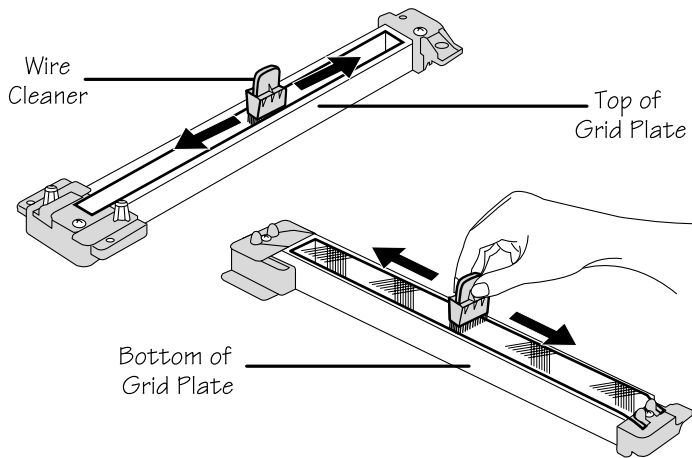

Fig. 6.13 Clean the Charger Unit
8. Clean the charger unit by sliding the wire cleaner along the groove in the top of the unit several times; then, flip the unit over and run the wire cleaner several times across the grid plate (a metal screen) on the bottom (fig. 6.13).